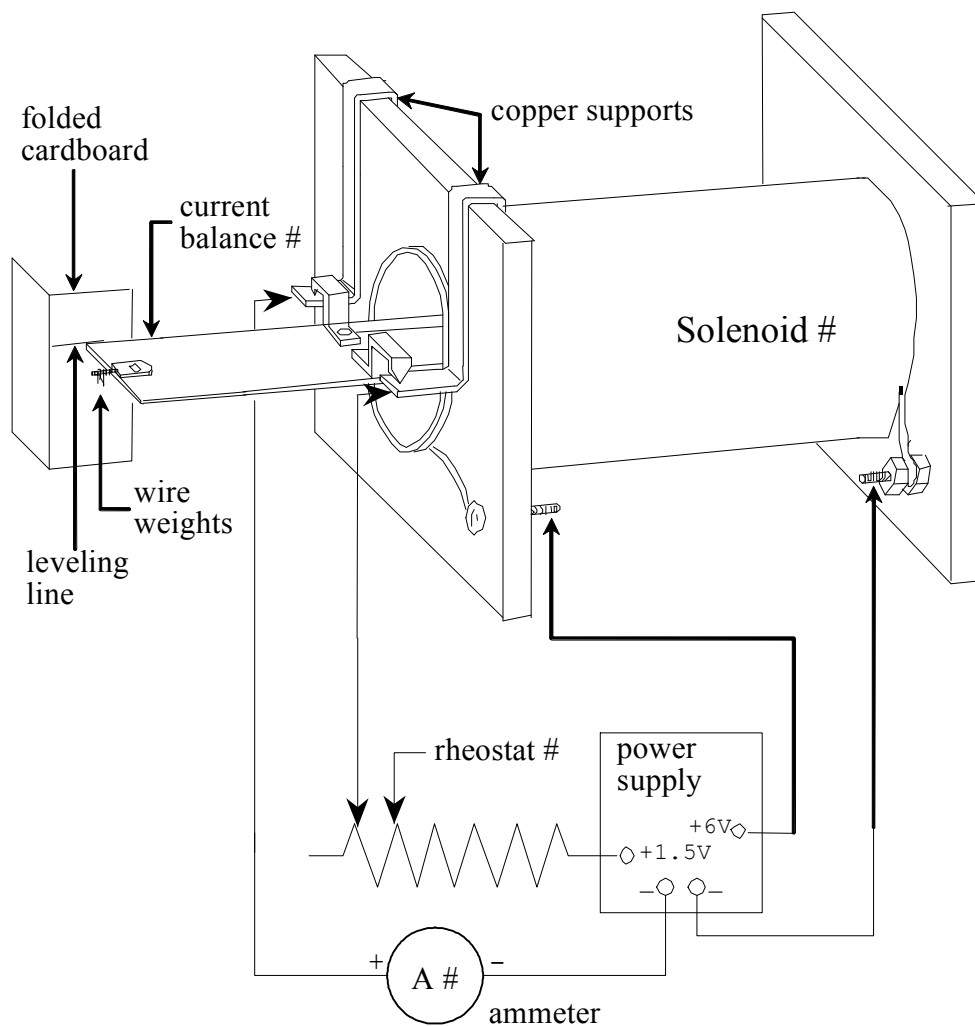
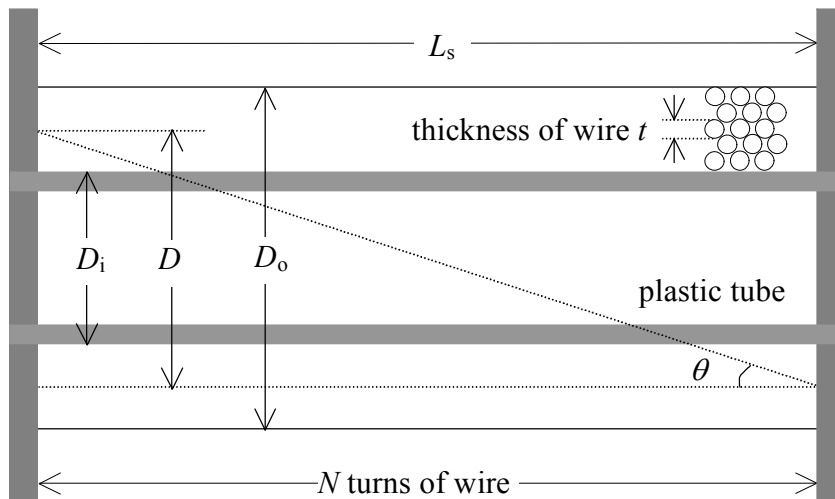

Fig 1
Fig 3
Apparatus Draw a labelled diagram of the apparatus. See Fig 1. Obtain wire leads and a power supply from the shelves on the North wall.
3. Set up the other circuit that runs 1.5V DC across the current balance, as shown in Fig 1. Since we need to change and measure the current of this circuit, we need to connect the rheostat and the multimeter. Make sure that your rheostat can modify the current and leave the knob at the half-way mark.
7. Repeat step (6) with 3, 4, 5, 6 wire weights on the screw and measure the current through the balance that is needed to level the balance each time. If you need more current, increase the power supply setting from 1.5V to 3.0V or 4.5V and turn the rheostat to a position of maximum resistance/minimum current. You should not go to the 6.0 V setting, as this will overheat the current balance circuit!!
9. The major data taking is done. In order to get a reference value for the magnetic field inside the solenoid, we also measure the geometry of the solenoid. See Fig 3. The data we need are:
| θ : | the angle shown in Fig 3 | given by the average diameter D and L_s |